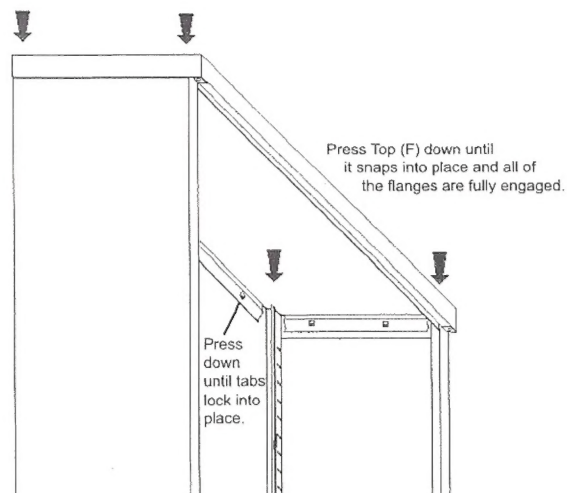

Fig. 4 - Push top down
- D)** Make sure the both of the side panels and each of the back panels are **partially** engaged in the flanges **before** pushing the Top (F) down fully.
- E)** Once the flanges are partially engaged, push the Top (F) down until it snaps into place and all the flanges are fully engaged. See Fig. 4.